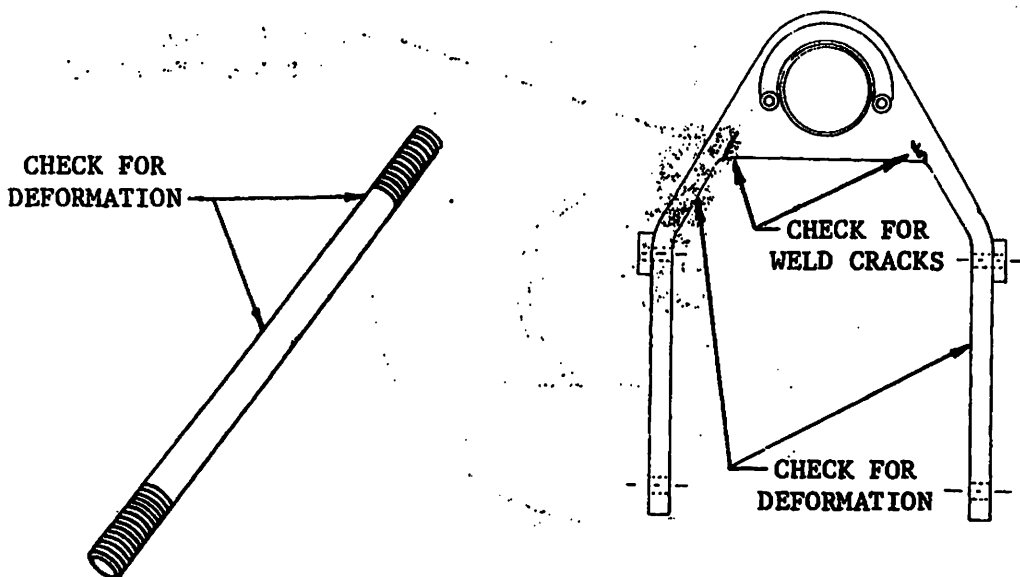

Figure 2-8. Nose Gear Axle Rod and Fork Assembly
- a. Inspect the nose gear fork assembly and axle rod for deformation or cracks as shown in Figure 2-8. This damage normally results from landing at a relatively flat attitude with a high vertical velocity. Any evidence of deformation or cracks is cause for rejection of the fork assembly and/or axle rod.